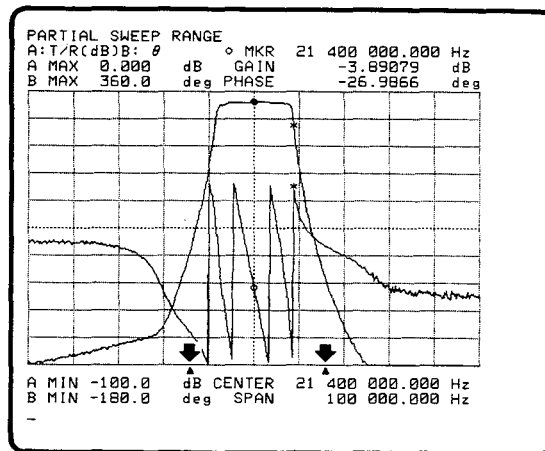

Figure 3-93. Partial Sweep Range
5. To verify the range settings, press the '**PART SWP on/off**' softkey, the "PART SWP on/off" label should intensify. The " " marks will be displayed below the graticule as shown in Figure 3-93, and the partial sweep will be performed between the limits set by the markers.
4. Press the **'PART SWP on/off'** softkey, the softkey label should change to intensified green. The "▲" marks will be displayed below the graticule as shown in Figure 3-93, and a partial sweep will be performed over the range set by the markers.